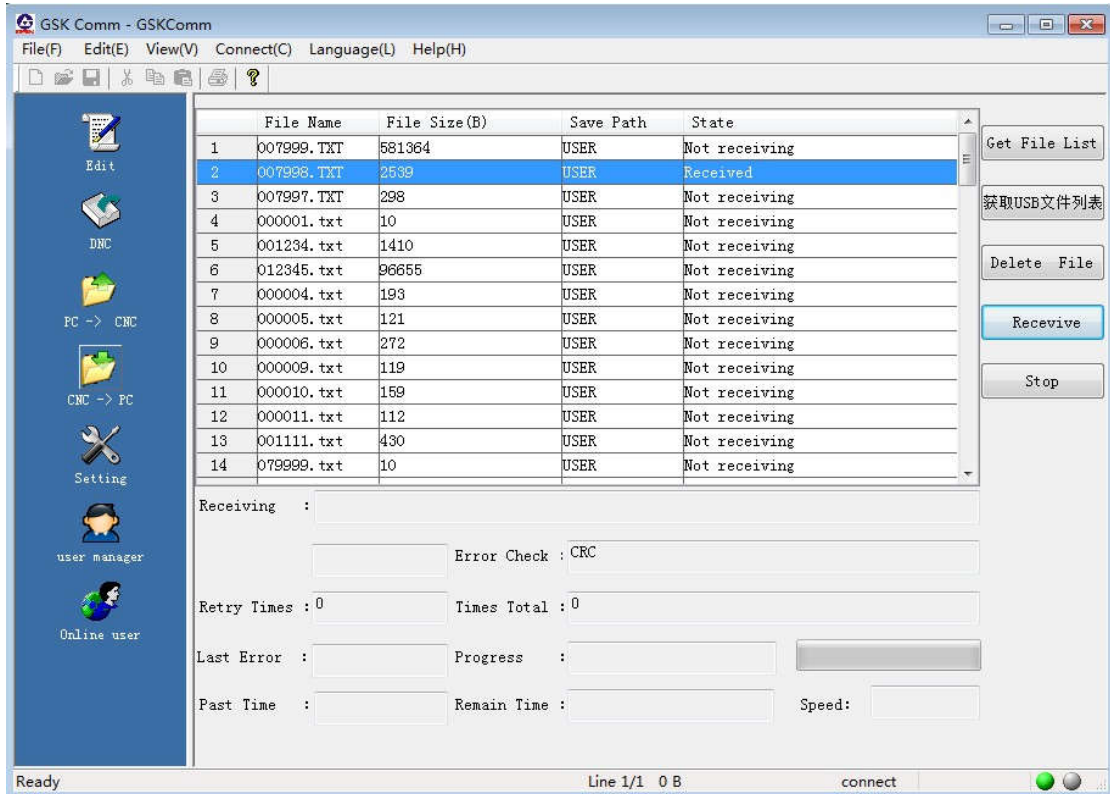

Fig. 11-2-2-3
- After the file is received, the status bar of the file list item displays “Received”, as shown in Figure 11-2-2-4.